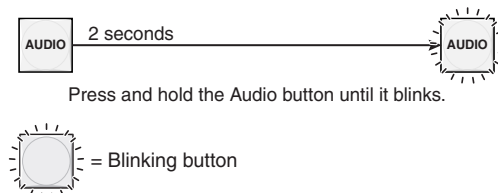

Figure 3-55 — Select Audio mode
2. Press and **hold** the Audio button for approximately 2 seconds (figure 3-55).